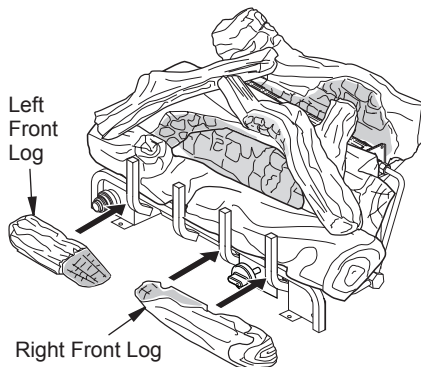

Figure 21 - Installing Front Logs
- Place right and left front logs against grate as shown in Figure 21 to hide the controls.